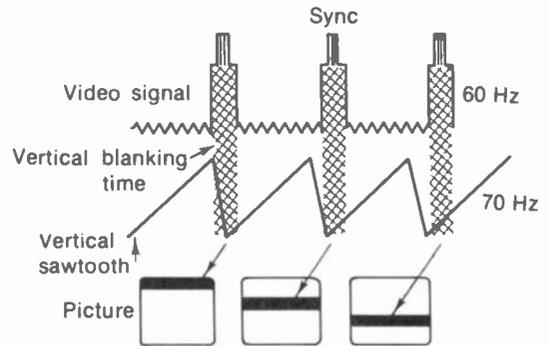

FIGURE 20-33 WHY THE PICTURE WITH BLANKING BAR ROLLS UP OR DOWN WHEN VERTICAL SCANNING FREQUENCY IS NOT AT 60 Hz.
**Vertical roll.** The reason for the rolling picture is illustrated in Fig. 20-33 for the case of vertical oscillator frequency too high. Notice the relative timing of vertical blanking in the composite video signal and vertical retrace in the sawtooth vertical deflection current. When both are at the same frequency, every vertical retrace occurs within vertical blanking time. Then vertical blanking is not visible at the top and bottom edges of the frame. However, with the vertical frequency too high, the sawtooth cycles advance in time with respect to the 60-Hz blanking pulses. Then vertical blanking occurs during trace time, instead of during retrace. Furthermore, each sawtooth advances into trace time for succeeding blanking pulses. As a result, the black bar produced across the screen by the ver-